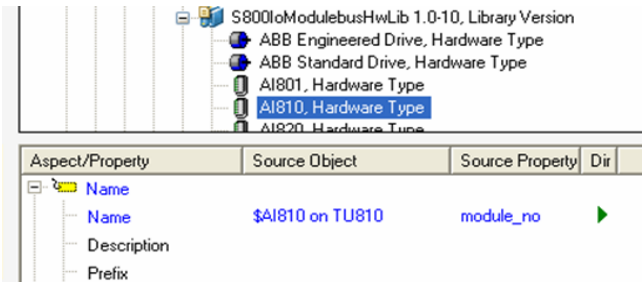

Figure 29. I/O Board Mapping
- In case of a I/O board (AI810, DO810, etc.)(Figure 29), the user must map the INtools/SPI module_no property to the Name property of the Name aspect since the I/O board must be named by the module number in 800xA. Mapping the INtools/SPI name can cause problems if the INtools/SPI name is not the module number but a string such as AI820. As described previously, at least one property/attribute needs to be mapped for the product to synchronize the objects.